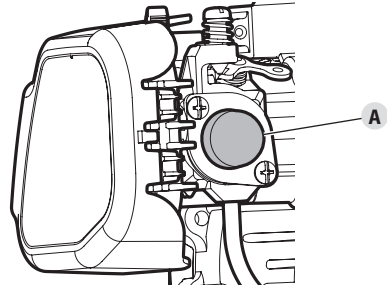

Fig. 12
1. Slowly press and release the primer bulb (Fig. 12-A) **10 times**. If fuel cannot be seen in the primer bulb, **press and release the primer bulb until fuel is visible**.